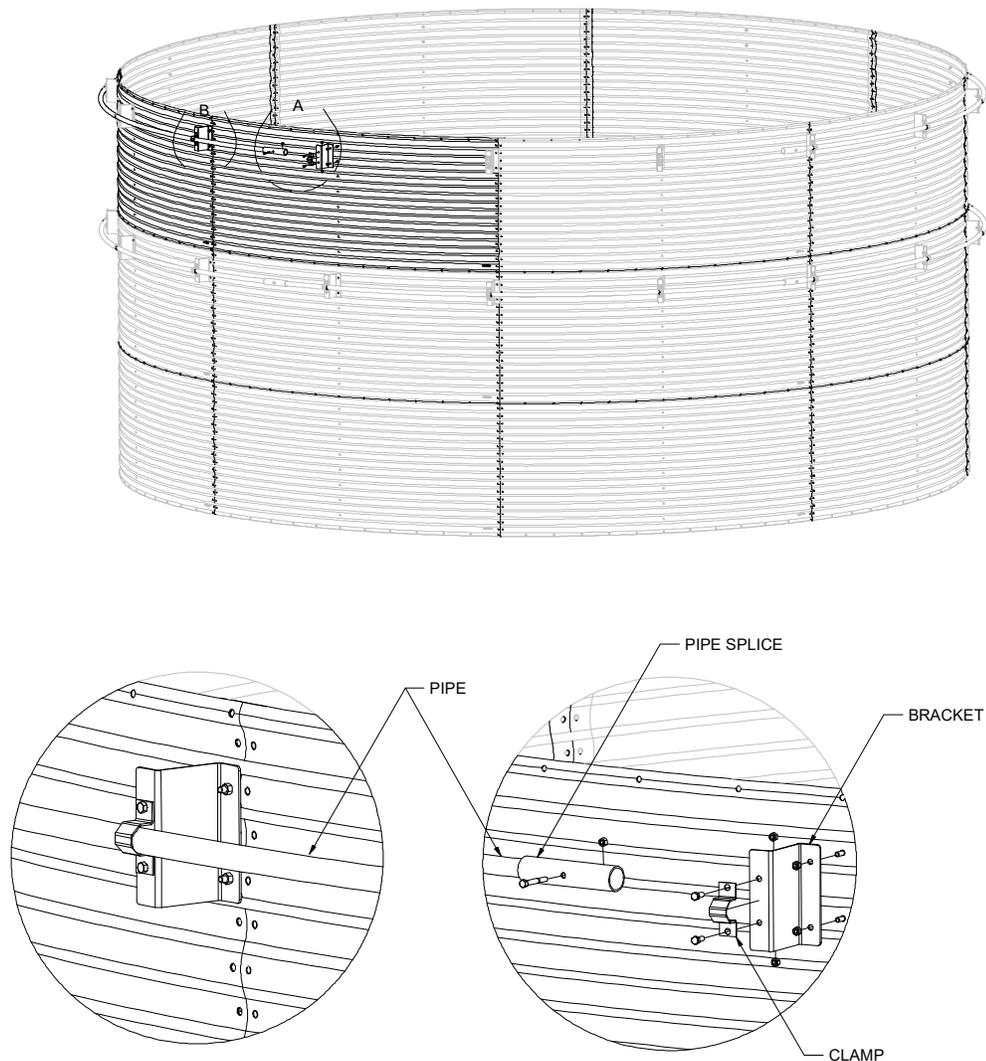

Fig 20 - Shell wind ring installation
3. Position the top centre hole of the wall sheet being added with the vertical seam of the two mating elevated wall sheets. Using a tapered punch, capture all three mating wall sheets through that hole. Angle and rotate the punch to align and ream the holes. See Figure 20. Use another punch (or as many as necessary) in an adjacent hole to maintain alignment.